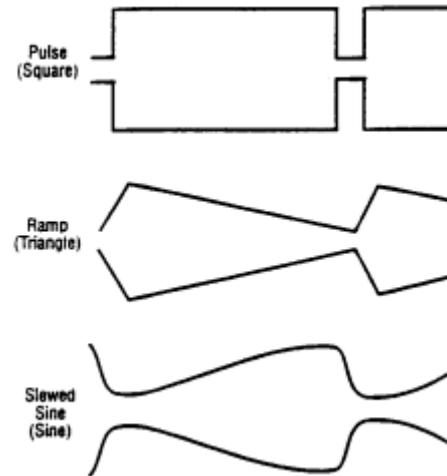

Figure 4. Effects of Symmetry Variation.
The **DUTY CYCLE** control can be used to alter the symmetry of the output waveform, to produce waveshapes such as those shown in Fig. 4. For a square wave, symmetry variation amounts to changing the duty cycle (ratio of "high" to "low" time), effectively converting the instrument into a pulse generator. For a triangle wave, the result is a ramp, and with a sine wave, a distorted waveshape called a slewed sine is produced. The Model 4040 provides for symmetry variation from 15% to 85%.
2. Engage the **DUTY CYCLE** switch (2) and adjust the **DUTY CYCLE** control (7) for the desired waveshape. Clockwise rotation from center results in an increase in square wave duty cycle, and changes the sine and triangle waves as shown in the top waveform of each pair of Fig. 4. Counterclockwise rotation results in the bottom waveform in each pair.